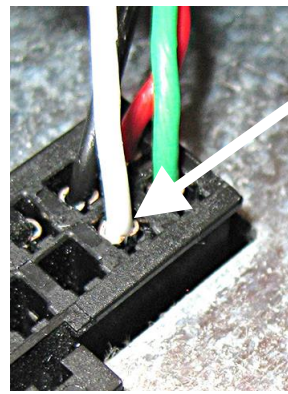

Figure 88
91. Insert the white wire into the position (pin 15) directly in front of the black wire inserted in step 90 (see Figure 88).